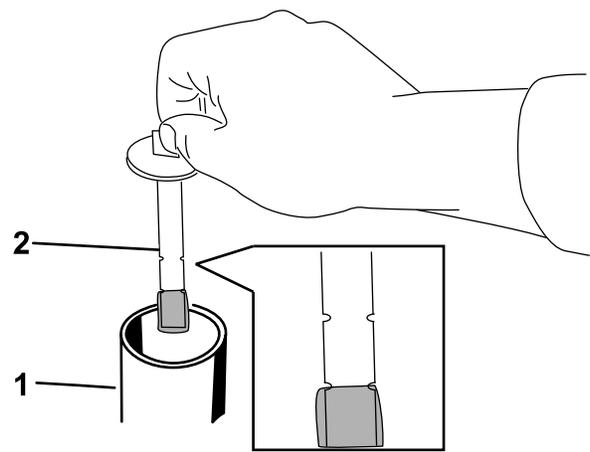

Figure 79
7. Remove the filler-neck cap and check the fluid level on the dipstick (Figure 79).